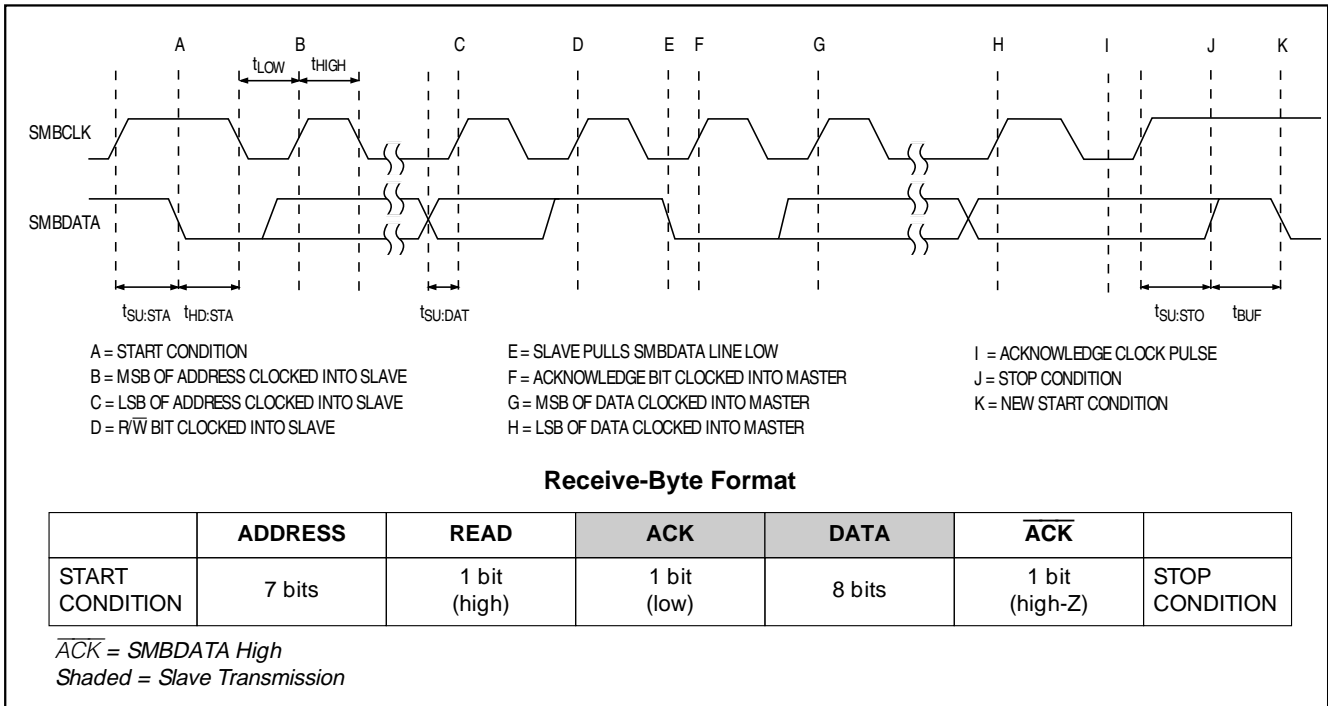
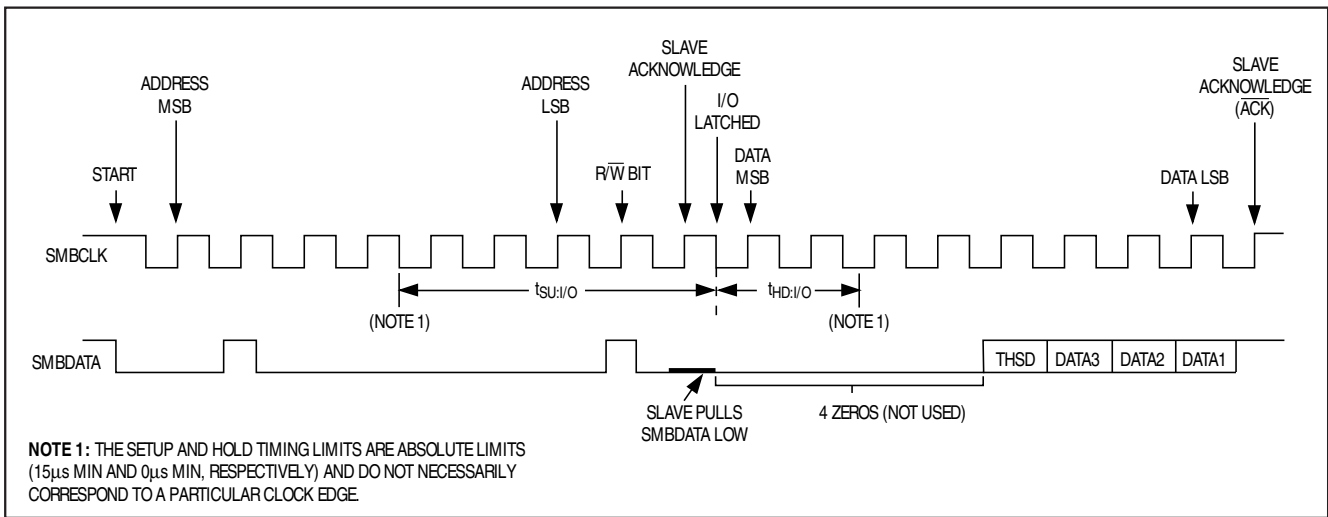

Figure 2b. SMBus Receive-Byte Timing Diagram and Format
Figure 4. I/O Read Timing Diagram
**Note 8:** Refer to Figure 4 for I/O setup and hold timing parameter definitions.
If the MAX1661/MAX1662/MAX1663 receives its correct slave address, followed by R $\bar{W}$  high, the device becomes a slave transmitter (Figure 2b). After receiving the address data, the device generates an acknowledge during the acknowledge clock pulse and drives SMBDATA in sync with SMBCLK. The SMB protocol requires that the master terminate the read transmission by not acknowledging during the acknowledge bit of SMBCLK. See Table 3 for receive-byte data format. Figure 4 shows the complete receive-byte operation timing diagram.
The logic states of the three I/O pins can be read over the serial interface (Table 3). The state of the I/O pins is sampled at the falling edge of the SMBCLK pulse that follows the R $\bar{W}$  bit and acknowledge bit (Figure 4). The states of the I/O bits in the status register reflect the